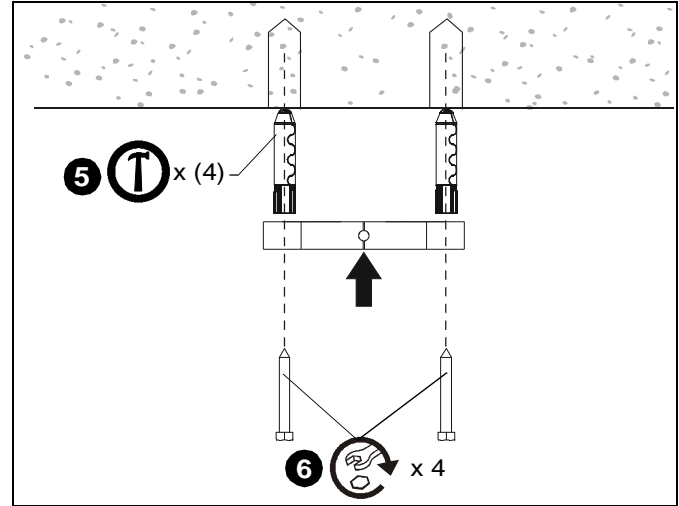

Figure 4
5. Install four Fischer UX10 or Toggler AF8 concrete anchors (not included) until flush with mounting surface. (See Figure 4)
6. Secure CMA101 to structure using four 5/16" x 3-1/2" Grade 2 lag bolts (not included). (See Figure 4)